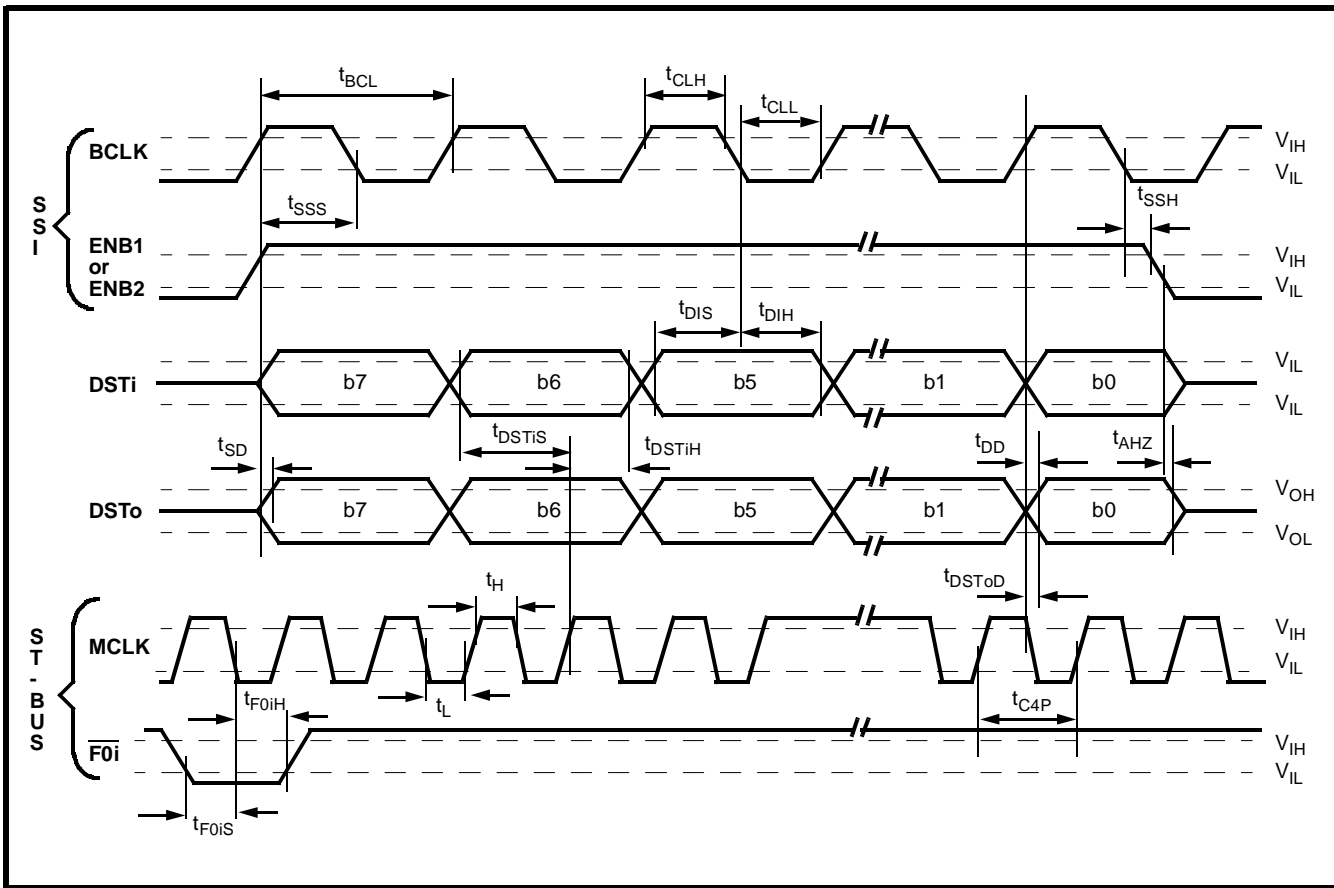

Figure 12- Serial PCM Port Timing
For SSI operation the bit rate, for both ADPCM and PCM ports, is determined by the clock input at BCLK. BCLK must be eight periods in duration and synchronous with the 8 kHz frame input at ENB1. Data is sampled at DSTi and at ADPCMi concurrent with the falling edge of BCLK. Data is available at DSTo and ADPCMo concurrent with the rising edge of BCLK. BCLK may be any rate between 128 kHz and 2.048 MHz. Refer to Figures 12 and 13.
**AC Electrical Characteristics† - Serial PCM/ADPCM Interfaces (see Figures 12 & 13)**Voltages are with respect to ground ( $V_{SS}$ ) unless otherwise stated.